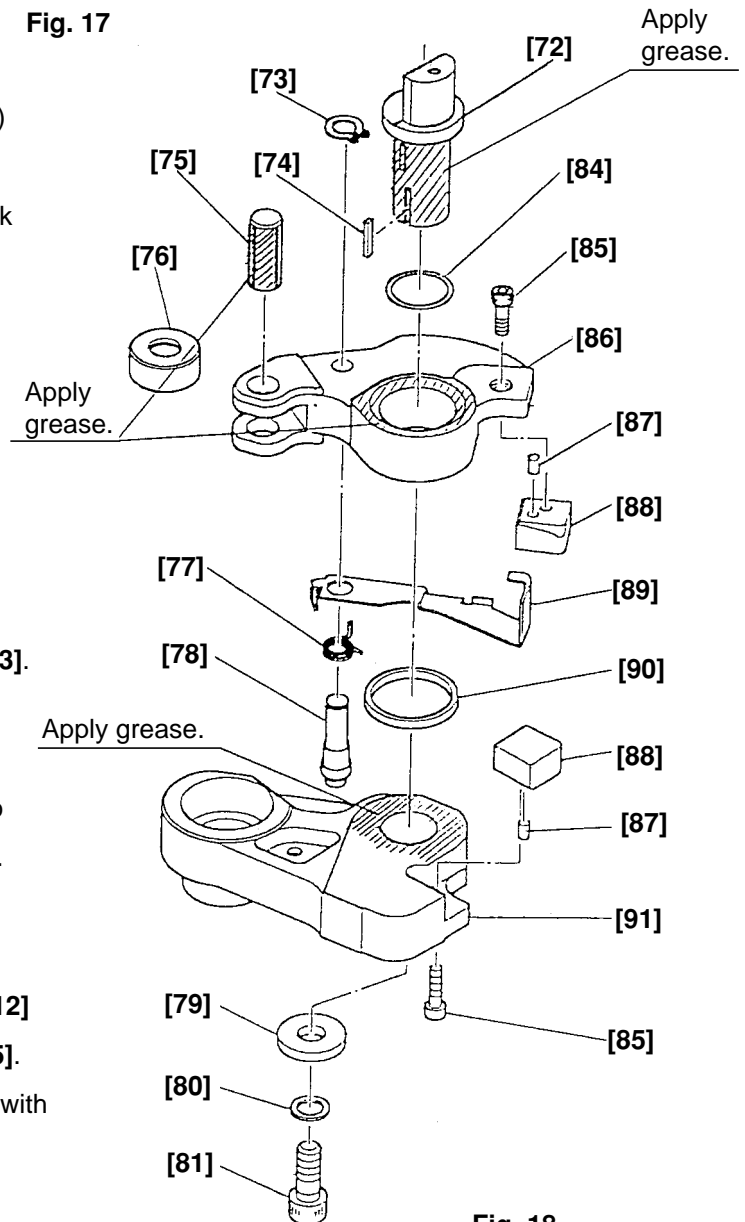

Fig. 18
(8) Disassembly of bracket (A) and (B) unit (Fig. 18)
(9) Disassembly of bracket (A) unit (Fig. 18)
(10) Disassembly of the cam shaft unit (Fig. 18)
(5) Reassembly of bracket (A) and (B) unit
Apply grease (DOUBLEX 251) to the shaded areas shown in Fig. 18 adequately. Aligning the two Feather Keys 3 x 3 x 20 [74] of Shaft (A) [72] with the key grooves of Bracket (B) [91], press-fit Shaft (A) [72] into Bracket (B) [91] until it contacts the end surface of Bracket (B) [91].